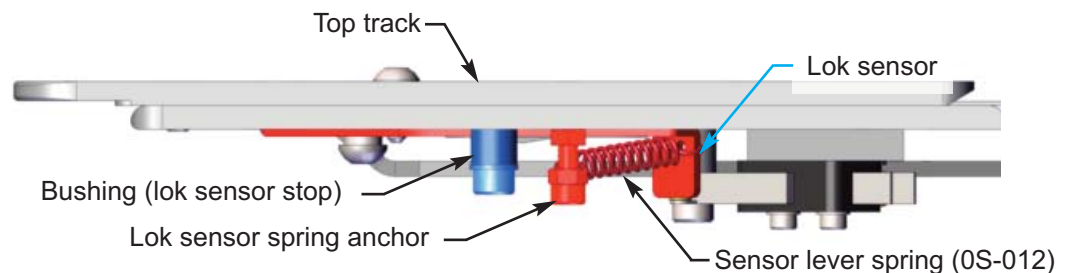

Figure 3.7
G. LOK SENSOR SPRING: Figure 3.7
The lok sensor spring is designed to apply force to the lok sensor tip keeping it against the side of the closure, as well as upward against the underside of the closure track. For the spring to operate correctly, it must be mounted as shown in Figure 3.7.
H. SENSOR LEVER STOP ADJUSTMENT: Figure 3.7 - 3.9